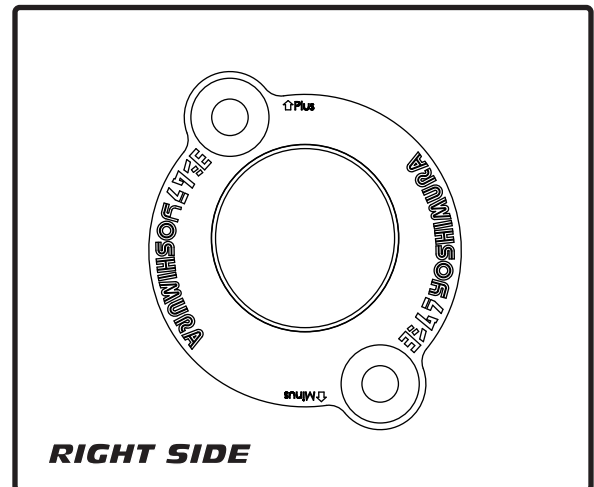

Fig. 5
15. Install Yoshimura right side pivot shaft plate using stock bolts (Fig. 5).